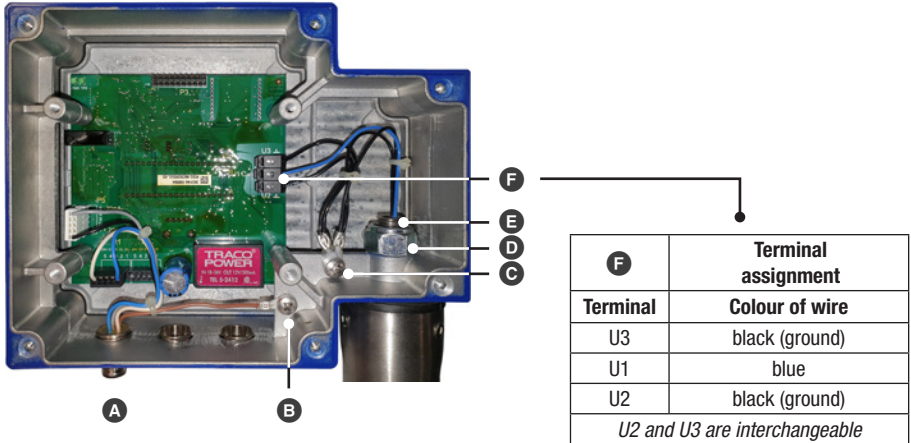

Fig. 11
10. Reconnect the electrode wiring to the PCB, see table in **Fig. 11**.